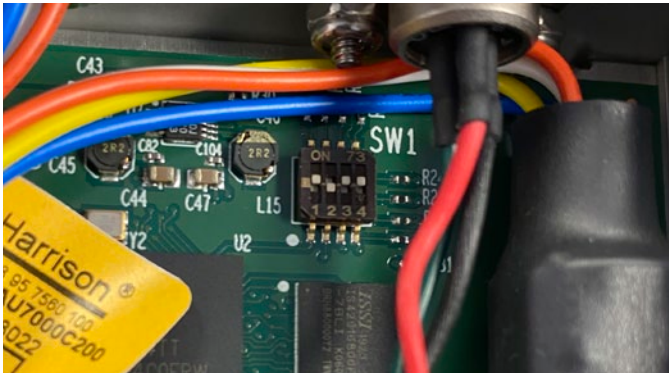

FIGURE 6-10: SERIAL FIRMWARE UPLOAD MODE
1. Make a connection from the host computer to the Serial port on the ECM. Verify that the ECM's dip switches have been adjusted correctly for the serial firmware upload to be possible (see Figure 6-10).